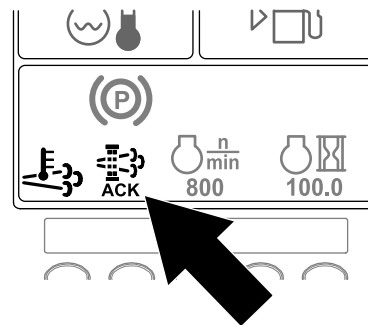

Figure 61
10. The InfoCenter displays the home screen and the regeneration acknowledge icon (Figure 61) appears in the lower right corner of the screen as the regeneration processes.